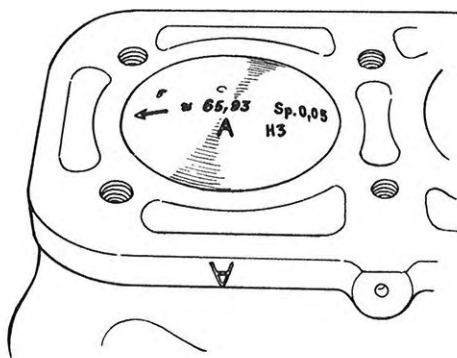

Fig. 12. Markings of block and pistons
2. Oil pistons, piston pins and needle bearings, and fit pistons to connecting rods. Use guide pin, tool 93-113, Fig. 16, for guiding the needle bearing when inserting piston pin. Check that pistons of the correct class are fitted and that the arrow on piston head points forward, see Fig. 12. Don't forget to fit the snap rings for the piston pins.